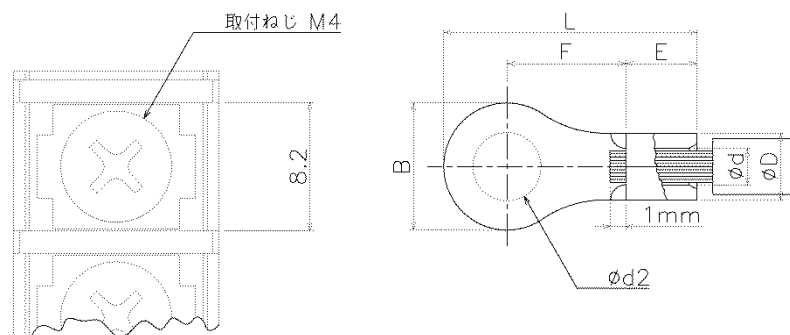

Figure 2.6c Terminal lug example (non-insulated ring terminal : JIS C 2805)
- Stripping length depends on the terminal lug type and shape. Please follow the instructions for each terminal lug. Figure 2.6c shows an example in case of non-insulated ring terminal (JIS C 2805)
5. Assemble the parts of connection facilities as shown in Figure 2.6c